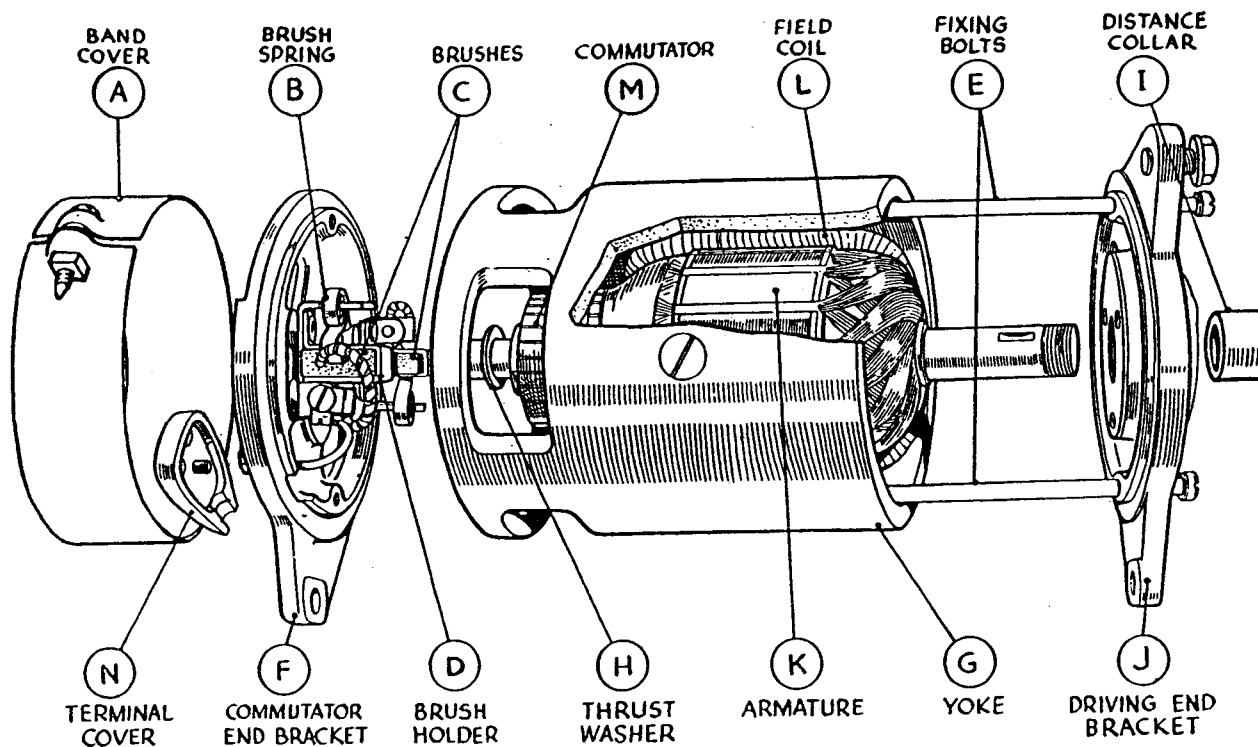

Fig. 14. Exploded and Partly Sectioned View of Dynamo.
- Check that the dynamo and control box are connected correctly. The dynamo terminals are accessible after the removal of the moulded terminal cover shown in Fig. 14 secured to the commutator end cover by a counter-sunk head set screw. The dynamo terminal "D" should be connected to the control board terminal "+D" by a yellow lead and the dynamo terminal "F" connected to control board terminal "F" by a green lead.
- (e) Unsolder the connections to the "D" and "F" terminals on the commutator end bracket and draw the leads out of the terminals. Remove the commutator end bracket "F" from the yoke "G". If it is a tight fit it should be carefully levered off with a screwdriver. When free, slide the end bracket, which is fitted with a porous bronze bearing bush for the armature shaft, sufficiently clear to enable the screw securing the second field coil lead to the brush box terminal to be removed. Remove the thrust washer "H" from the commutator end of the armature shaft and the distance collar "I" from the driving end (see Fig. 14).